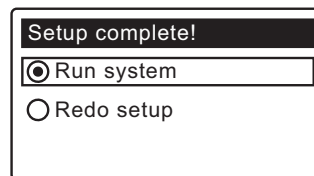

FIG. 22
12. Press the SELECT (○) button. The screen will show “Setup complete!” (See Figure 22).
14. If no changes are desired, make sure **Run system** has a black dot next to it (See Figure 22) and press the SELECT (○) button. The unit begins normal operation, described on the next page.